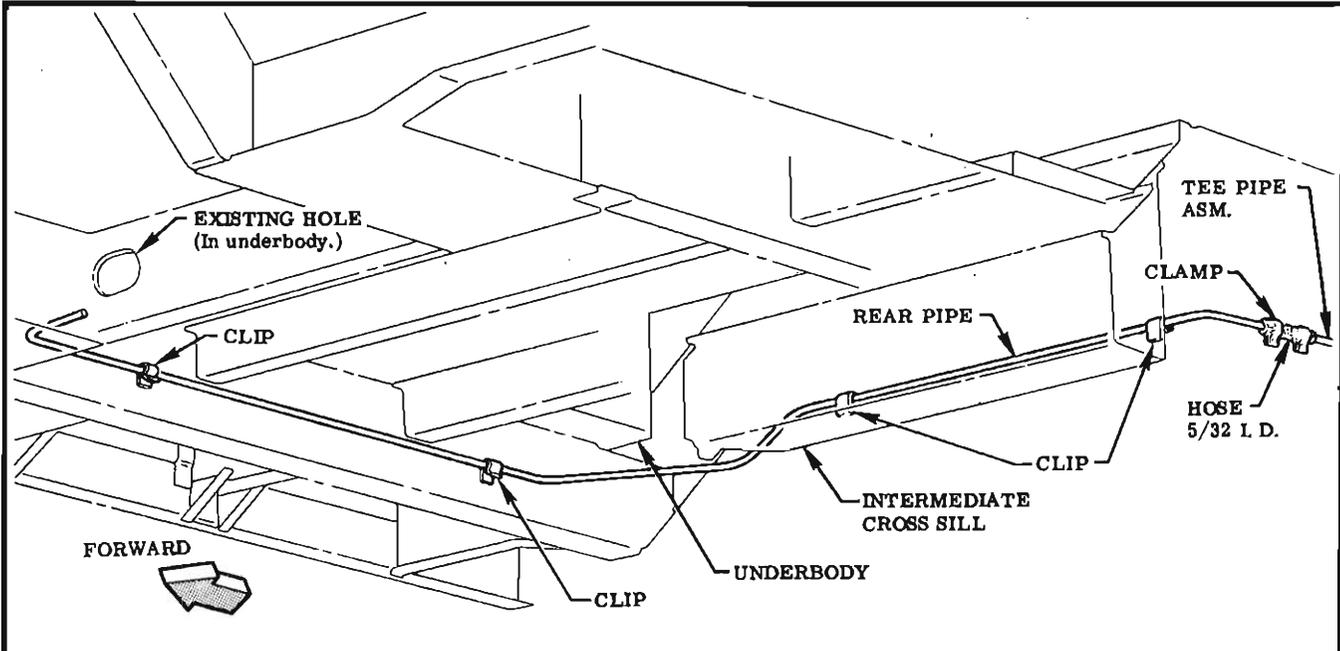

FIG. 9 REAR GASOLINE PIPE ROUTING
STEP 45 FROM UNDERSIDE OF VEHICLE, ROUTE REAR PIPE FORWARD & CLIP TO INTERMEDIATE CROSS SILL & TO SIDE RAIL WITH CLIPS PROVIDED (IN BAG C). SEE FIG. 9.
STEP 46 JOIN REAR PIPE & TEE PIPE WITH HOSE & CLAMPS PROVIDED (IN BAG C). SEE FIG. 9.